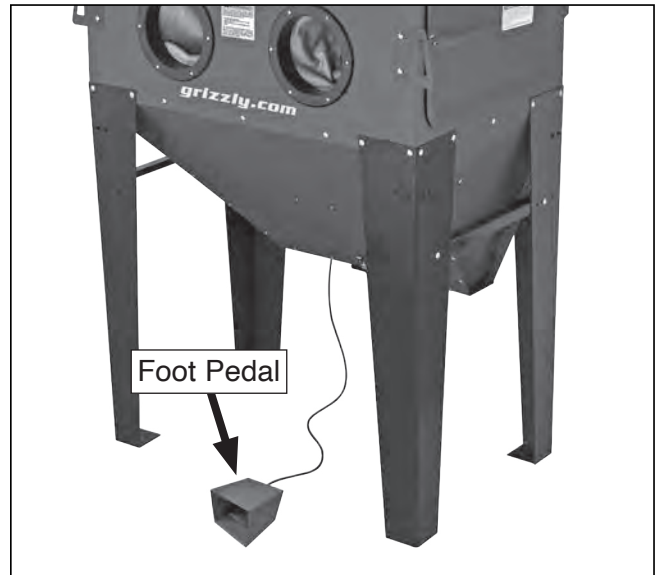

Figure 17. Foot pedal positioning.
- Position foot pedal (see **Figure 17**) between legs where it will be convenient to use. Pedal may also be fastened to floor if unit will not be moved.